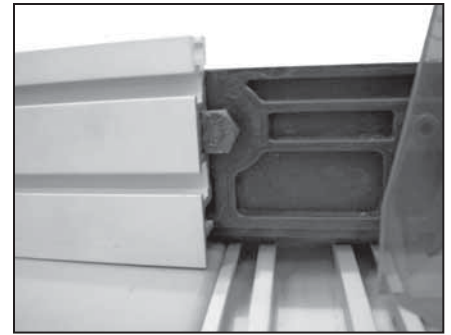

Figure 6
5. Align the heads of the hex bolts installed in step 4 with the middle slot on the aluminum extrusions. Once the extrusion is in position the 4 point knob can be tightened to hold the face in position. See Figure 6.